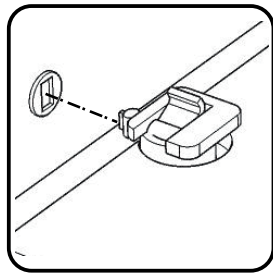

Figure 2
Attach Rail (M) to unit, then flip Locks. (See Figures 2 and 3)